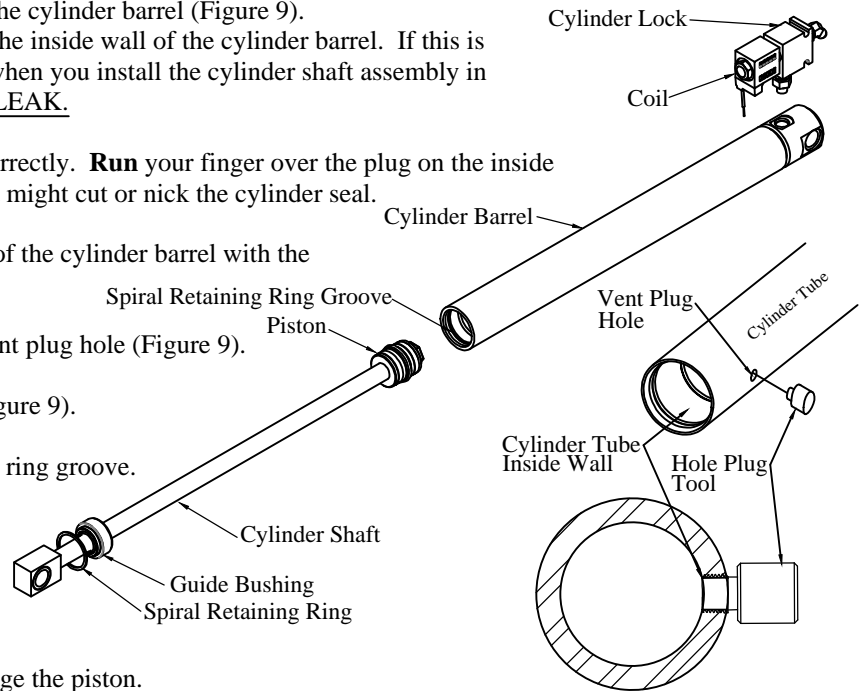

Figure 9: Cylinder assembly.
- 1. Install** the hole plug tool into the vent plug hole on the cylinder barrel (Figure 9).
- 4. Install** the piston into the cylinder barrel, past the vent plug hole (Figure 9).
- 5. Install** the guide bushing into the cylinder barrel (Figure 9).
- 7. Install** the cylinder lock on the cylinder (Figure 9).